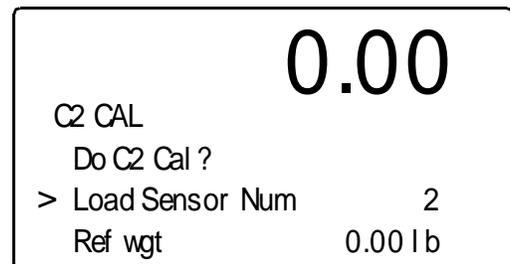

FIG. 2-37 C2 CALIBRATION SUB-MENU
- Step 8. Press the Enter button. The C2 CAL Sub-menu appears with the cursor in front of Load Sensor Num. (See Fig. 2-37)